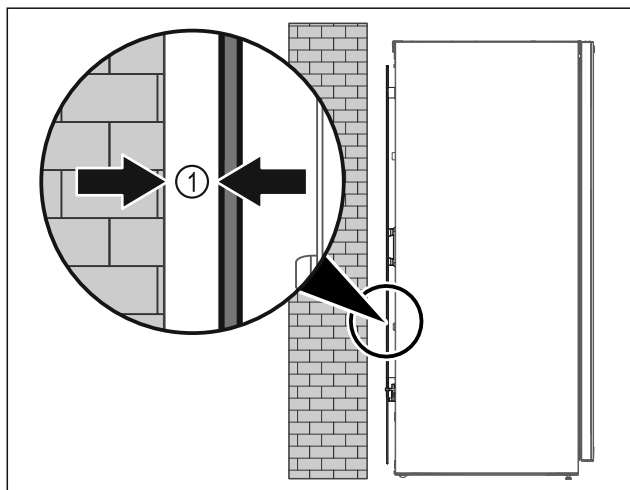

Fig. 8
- Set up the appliance either free-standing or directly against a wall at a minimum distance of 5 mm Fig. 8 (1).